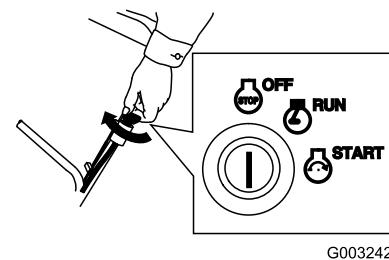

Figure 28
1. Turn the key to the Off position (Figure 28).